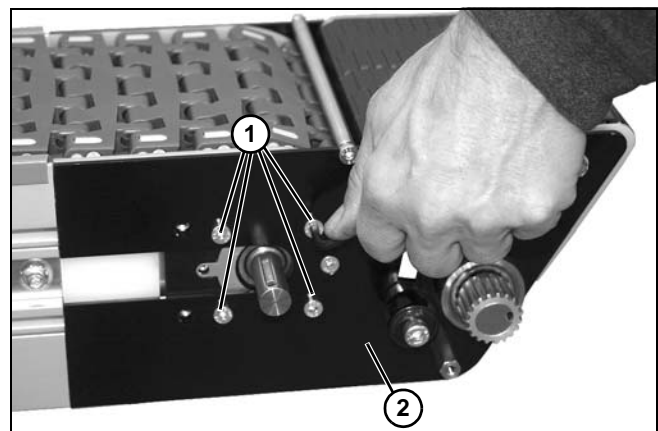

Figure 115
7. Remove socket head screws (**Figure 115, item 1**) from power transfer tail (**Figure 115, item 2**). Repeat on opposite side.